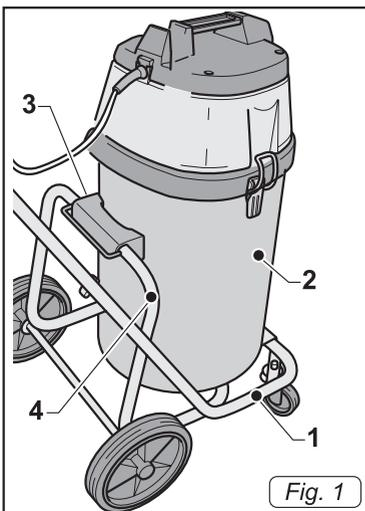

Fig. 1
- Place the trolley on the ground (1 Fig. 1)
- Place the cover (2 Fig. 1) on the trolley, setting the support in the plastic (3 Fig. 1) on the trolley's rod (4 Fig. 1).